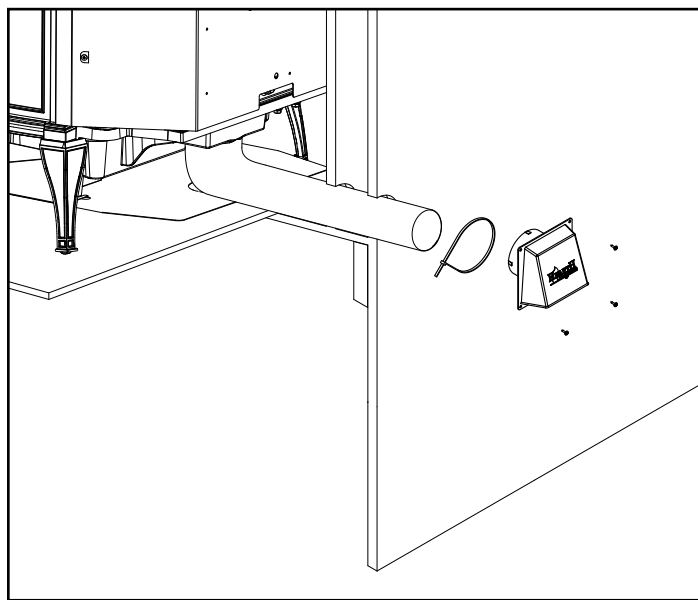

Figure 5.12 - Rear Installation
2. Using a #2 Phillips screw driver attach the flex adapter to the appliance using 4 screws. Figure 5.12 & 5.13.